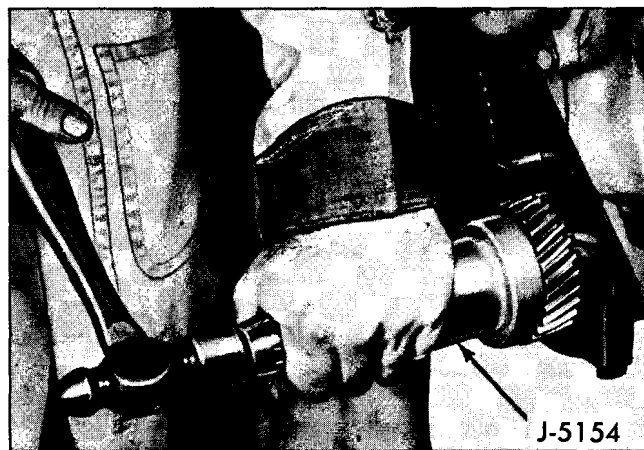

Fig. 6-72 Installing Crankshaft Timing Gear
9. Install crankshaft timing gear with installer tool J-5154 (Fig. 6-72).